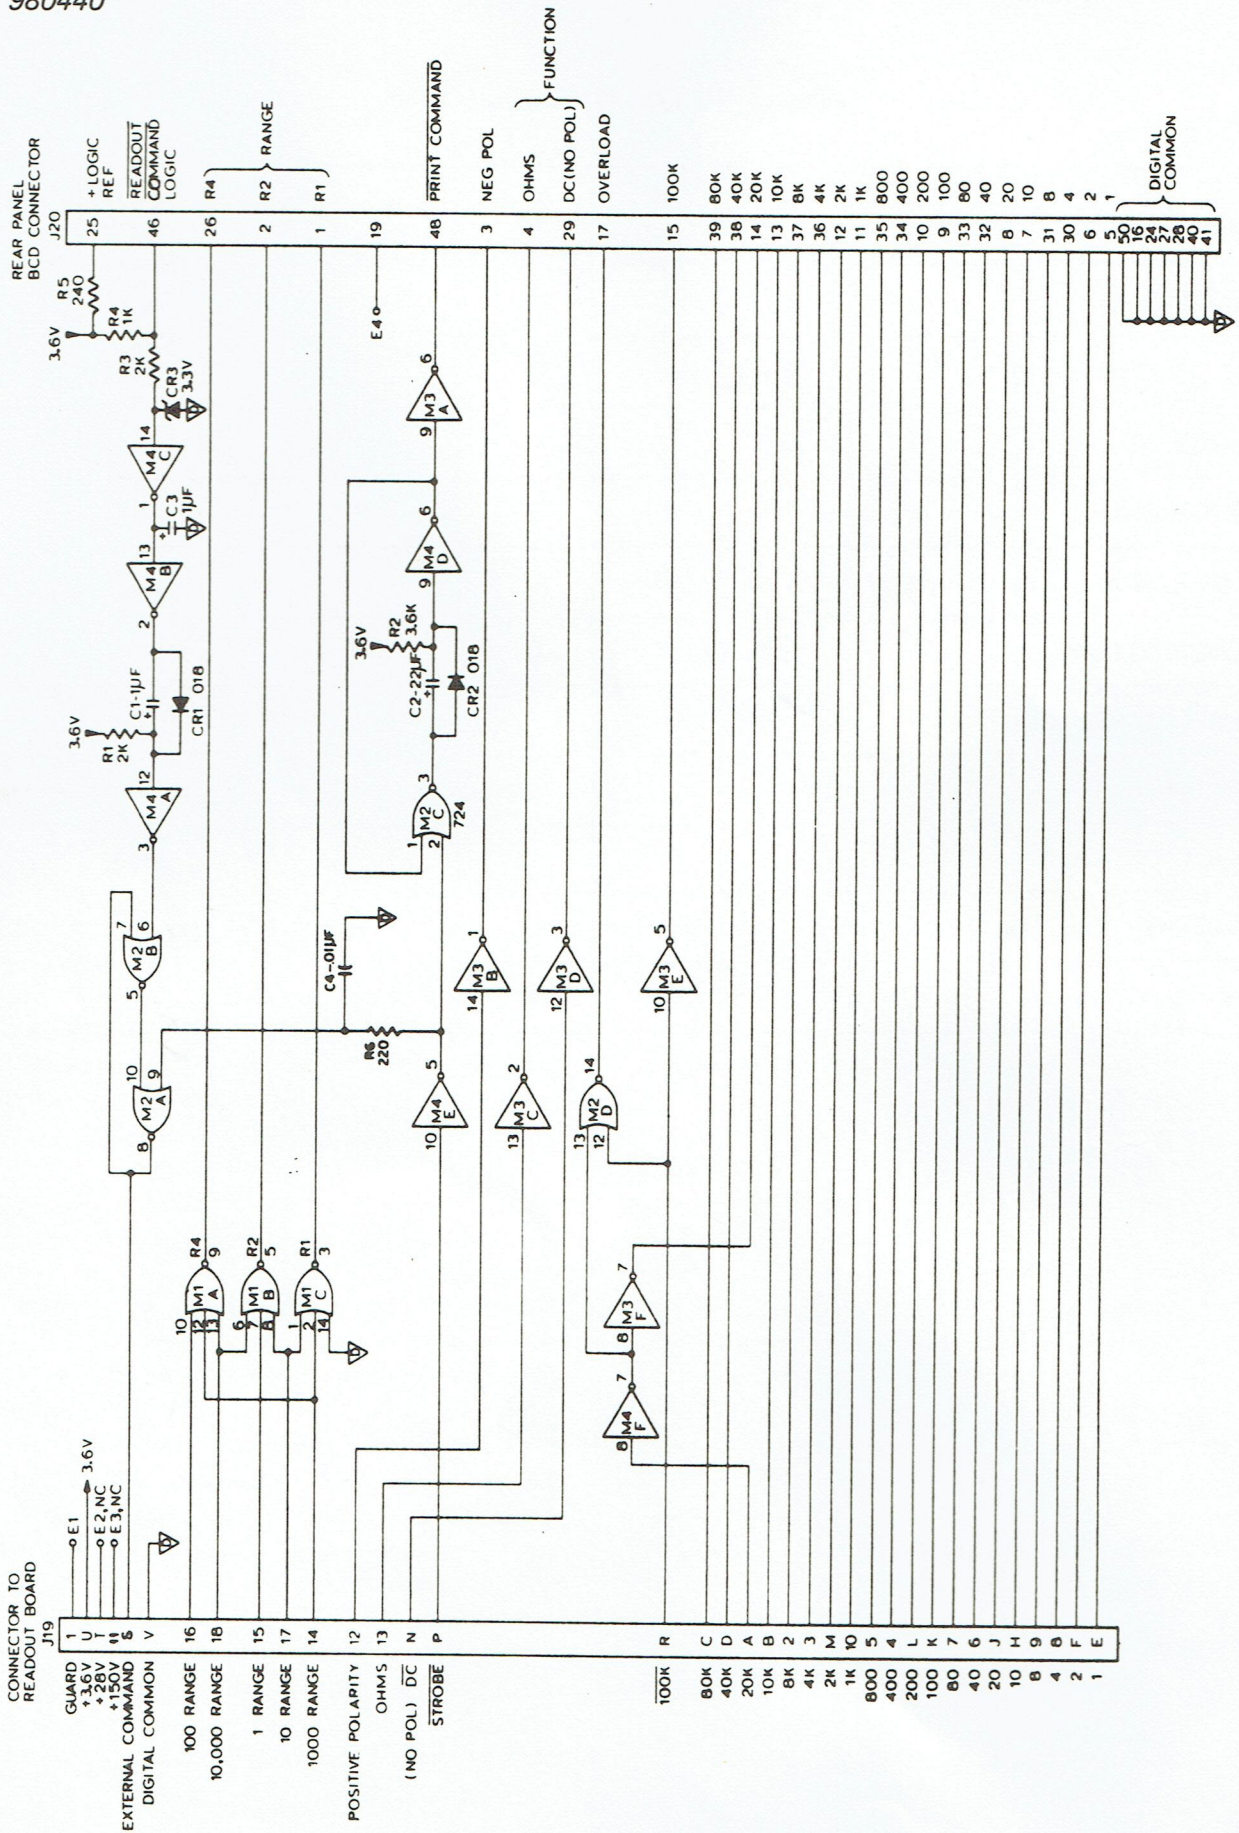

Figure 3.2 - BCD Output Module
3.11 On the BCD Module schematic, figure 3.2, resistors R3 and R4 bias the read command line at 2 volts. Thus the line is normally always in a "true" state. A one-millisecond delay is caused by the charging time required for capacitor C3. A one-millisecond one-shot is comprised of resistor R1,